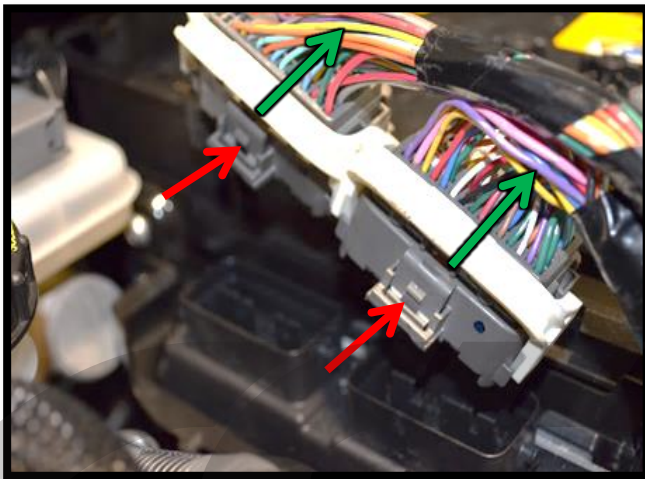

Figure 2d
- f. Disconnect the ECU plugs. Push on the tabs (red arrows in Figure 2d) and pull the white lock upward simultaneously (green arrows in Figure 2d).